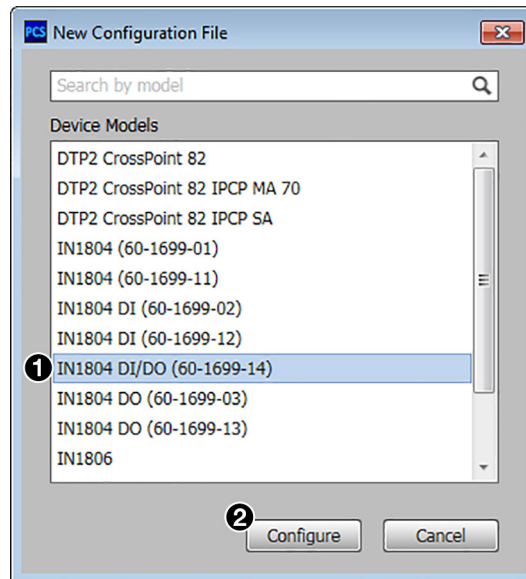

Figure 40. New Configuration File Dialog Box
2. Select the desired device model from the **Device Models** list (see figure 40, ①). In example, **IN1804** (standard model) was selected.
3. Click the **Configure** button (②). A new offline device configuration tab opens.